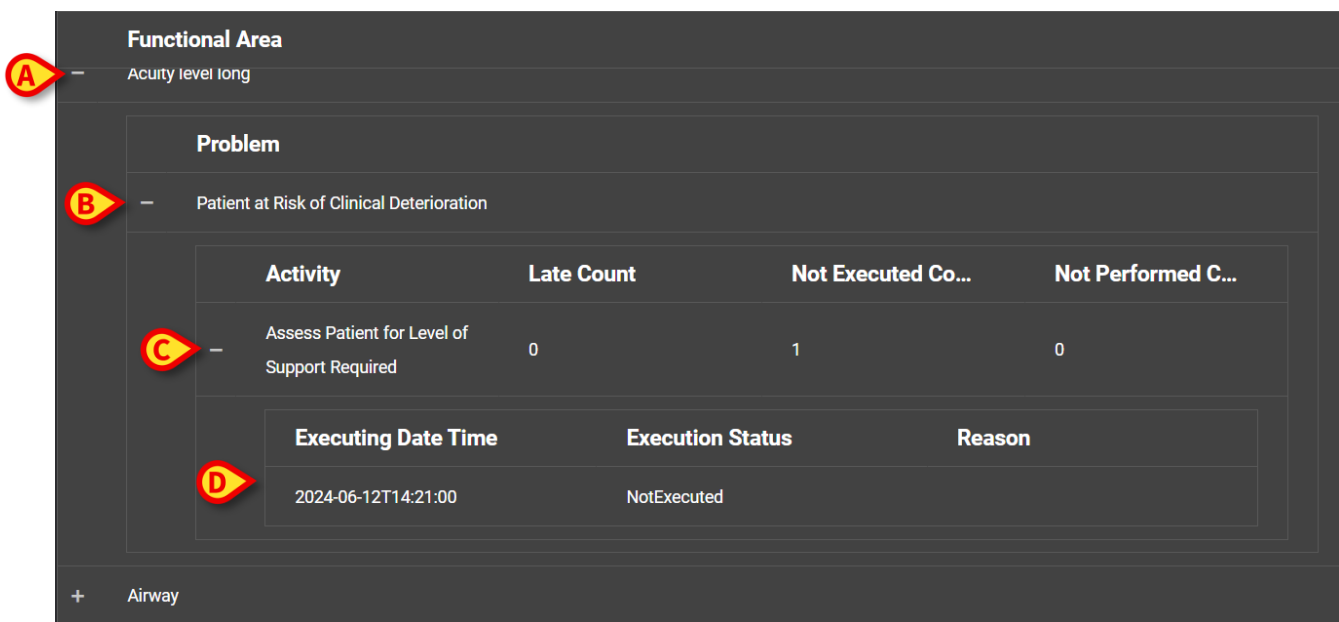

Fig 102
See, for example, in Fig 102:
- Functional Area: Acuity Level Long (Fig 102 A).
- Problem: Patient at Risk of Clinical Deterioration (Fig 102 B).
- Activity: Assess Patient for Level of Support Required (Fig 102 C).
- Anomaly: the anomaly details are here specified (date/time and type - Fig 102 D).